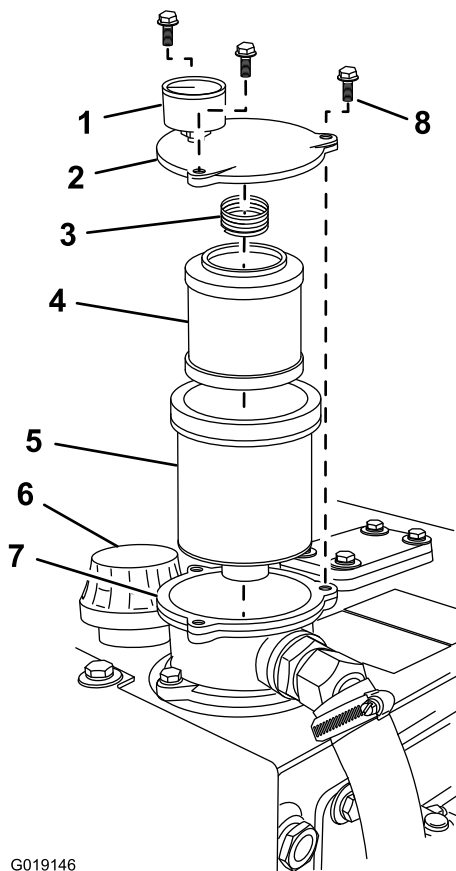

Figure 73
- A. Place a rag over the hydraulic tank breather/cap, and slowly turn the cap counterclockwise to remove the breather/cap (Figure 73).
- B. Install the breather/cap (Figure 73).
- A. Remove the 3 hex-head bolts that secure the filter cover to the filter housing (Figure 73).
- B. Remove the filter cover, spring, filter element, and filter bowl (Figure 73).
- B. Install the filter bowl into the filter housing (Figure 73).
- D. Install the new filter element into the filter bowl (Figure 73).
- E. Install the spring (Figure 73).
- F. Align the filter cover to the filter housing, and align the hydraulic filter gauge adjacent to the breather/cap on the hydraulic tank (Figure 73).
- G. Thread the 3 hex head screws that were removed in step A of Removing the Hydraulic Filter \(page 51\) through the filter cover and into the filter housing (Figure 73).